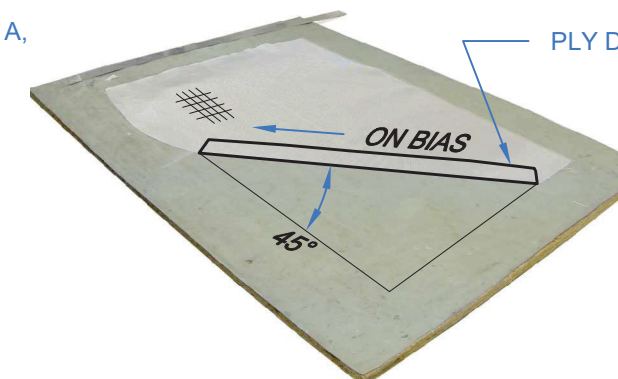

FIGURE 3: PLY D ON BIAS
Step 6: Use a rotary cutter and a straight edge to cut a 30 [76.2 cm] x 2 1/2 [63.5 mm] strip of glass fabric on the bias. From now on, this strip will be referred to as "Ply D". See Figure 3. Carefully roll up the ply after cutting to prevent distortion.